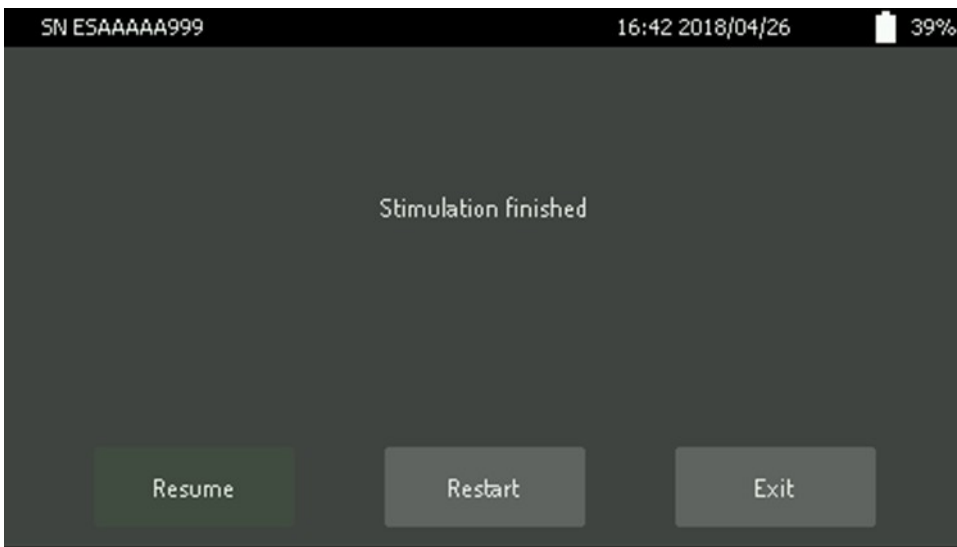

Figure 69. Screen showing that stimulation has finished without errors.
After a successful stimulation dose, the exit screen is shown with a message confirming the end of stimulation (Figure 69).
- the programmed stimulation was successful (Figure 69),